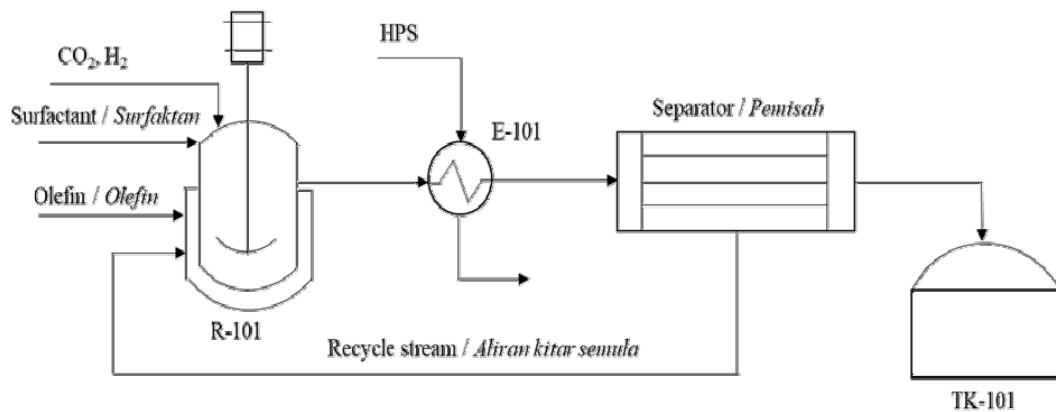

Figure 1: Simplified PFD for production of long-chain olefins in microemulsion process
- (1). The simplified Process Flow Diagram (PFD) of a polymer resin production process is shown in **Figure 1**. The process involves a reactor, a heat exchanger, and a separator.
- (a). Describe the main purpose of each piece of equipment (Simplified PFD) shown in the Figure 1 and explain its role in resin production.
- (b). Based on the PFD shown in Figure 1, determine how the flow of raw materials and products might be affected if the heat exchanger were to malfunction. Provide one operational adjustment to mitigate the issue.